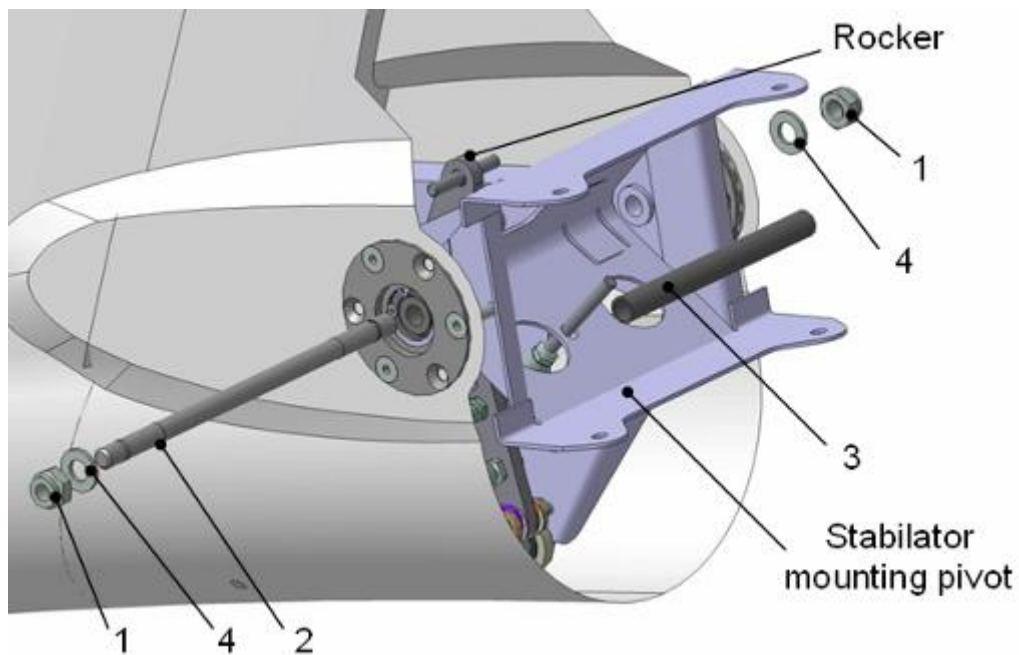

Fig. 4-12
- Lubricate the Stabilator axle (2) (see Fig. 4-12) by CIATIM-201 (or Aeroshell Grease 6 (SHELL), Unirex S 2 (Esso), Enebrease LCI, LT 2 (British Petroleum)). Make sure that the threaded parts of the axle are not lubricated.
- Install the Stabilator mounting pivot with installed Trim Tab Rocker on the fuselage as follows: Match holes in the Stabilator mounting pivot with holes in the bearings; Insert the Stabilator axis (2) through hole in the left bearing, the left hole in the Stabilator mounting pivot, Spacer (3), and right hole in the Stabilator mounting pivot and right bearing, Fig. 4-12.
6. Ensure that threaded parts of the Stabilator axis (2) are not lubricated. Secure the axis (2) by new nuts (1) using two socket wrenches 13 mm, Fig. 4-12.